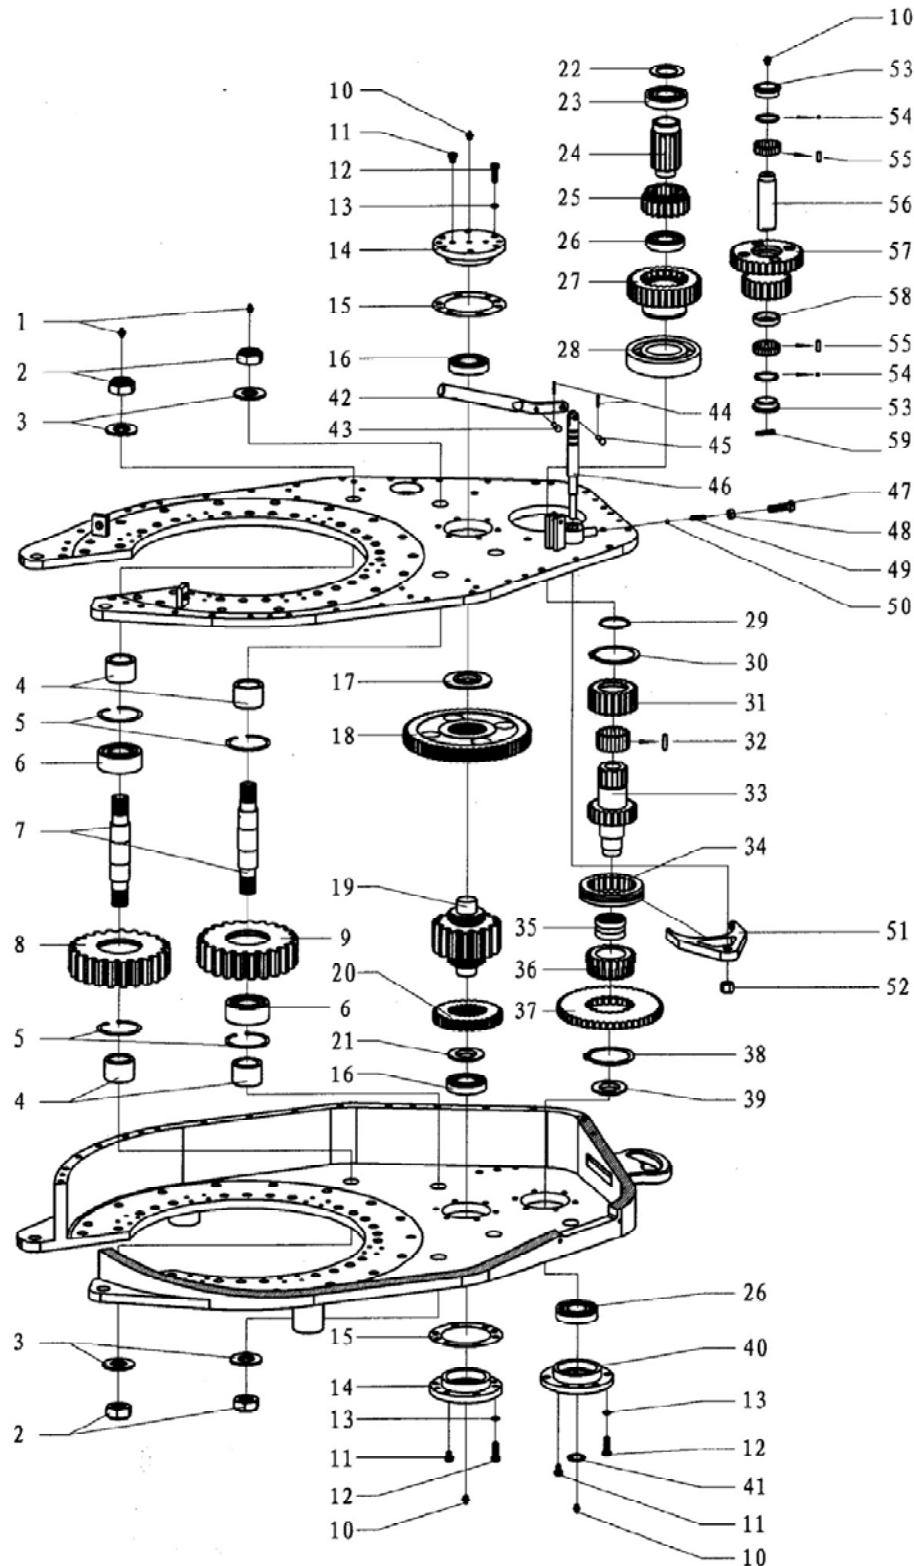

Fig 9
7.6. Master transmission gear (Fig9, Table8)